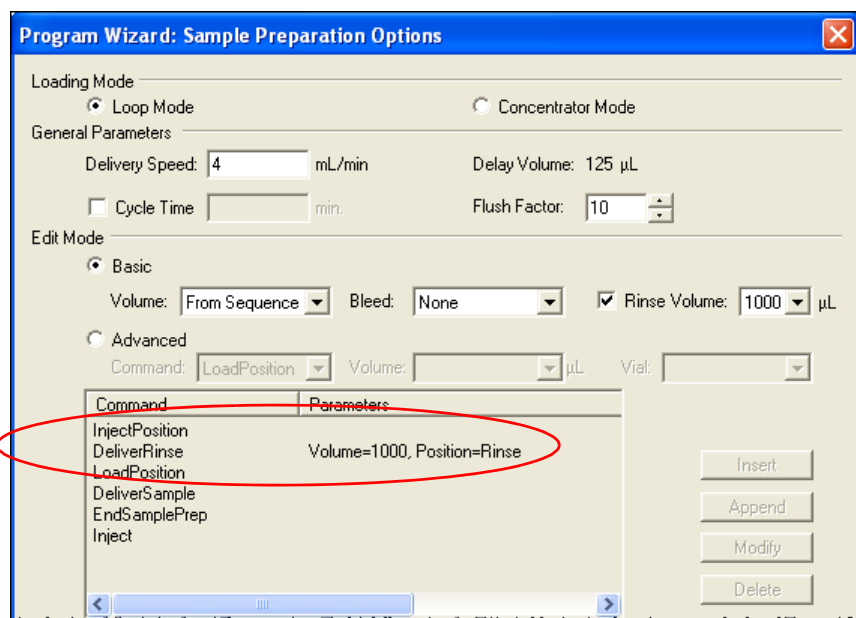

Figure 3-10. Sample Preparation Options (Chromeleon 6.8 Version Shown): Deliver Rinse in Basic Edit Mode
2. If you are using **Basic Edit Mode**: Select the **Rinse** check box and enter the **Volume** (see Figure 3-10). With this mode, the rinse is always delivered from the vials in the rinse vial range specified in the Chromeleon 7 Instrument Configuration Manager or Chromeleon 6.8
Selecting the **Rinse** check box and entering a **Volume** adds two commands to the beginning of the **Command/ Parameters** table (see Figure 3-10):
2. In the Chromeleon instrument method or program, enter **Rinse** for the vial position. See the example in Figure 3-10.